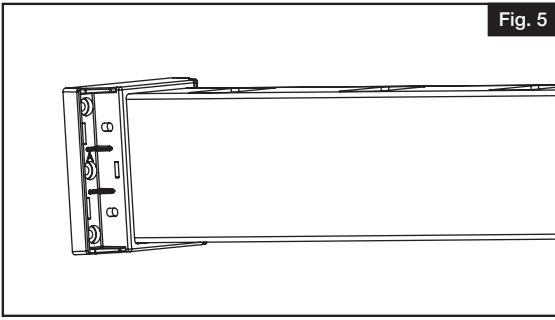

Fig. 5
Cut two 2" temporary wood spacer blocks (not included) to insert under ends of railing sections to temporarily assist in aligning railing section (Fig. 5).
- Place brackets onto both ends of bottom rail (Fig. 5).